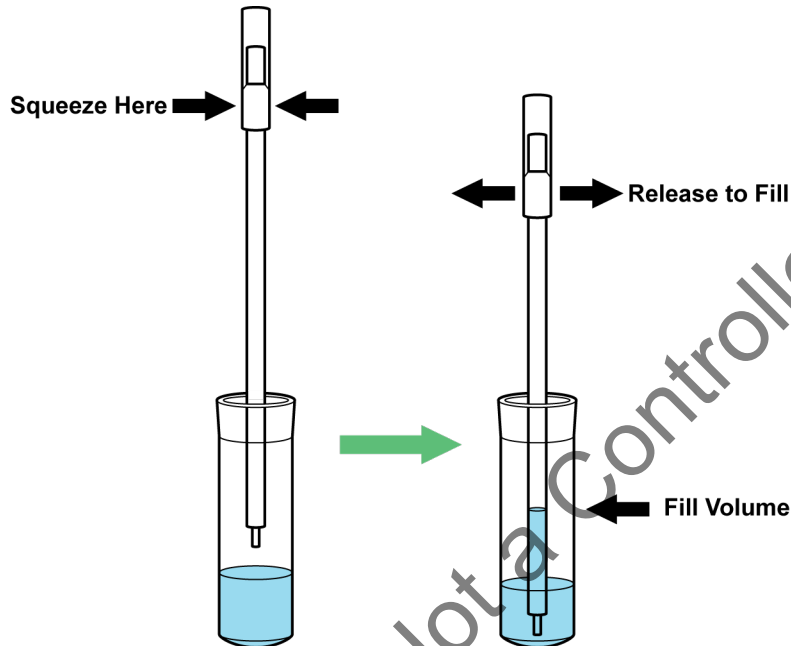

Figure 1. Transfer Pipette
- Open the cap on the specimen transport tube. Squeeze the bulb of the transfer pipette **completely** and place the pipette tip in the ESwab transport medium tube containing the patient specimen (see Figure 1).
4. Lift the cap with the attached swab from the transport tube (do not remove the swab completely from the transport tube). Squeeze the bulb of the transfer pipette completely and place the pipette tip in the ESwab transport medium tube containing the patient specimen (Figure 1).